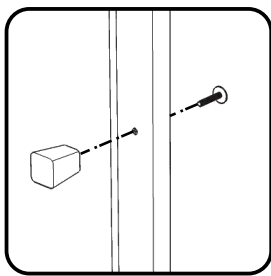

Figure 6
Attach Knobs to Doors (F) and (G) with Machine Screws. (See Figure 6)